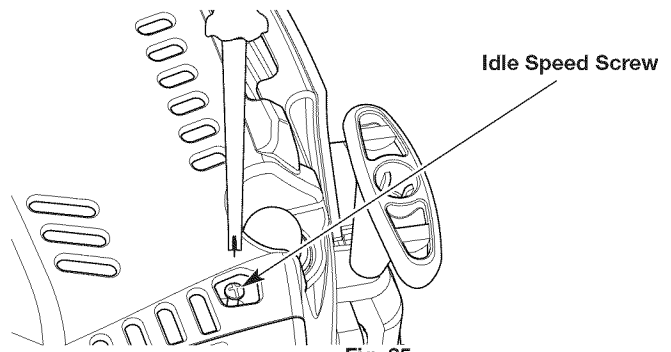

Fig. 25
2. Release the throttle control and let the engine idle. If the engine stops, use a small Phillips screwdriver to turn the idle speed screw clockwise, 1/8 of a turn at a time (as needed) until the engine idles smoothly (Fig. 25).
3. If the engine is idling too quickly, turn the idle speed screw counterclockwise, 1/8 of a turn at a time (as needed) to reduce the idle speed (Fig. 25).